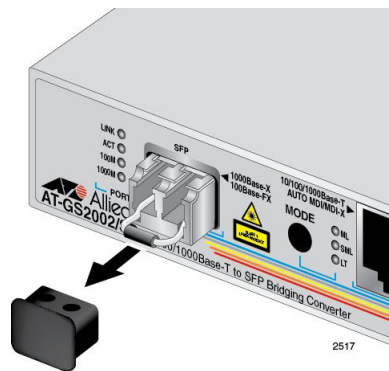

Figure 9. Removing the Dust Cover from the SFP Transceiver
1. Remove the dust cover from the SFP transceiver, as shown in Figure 9.